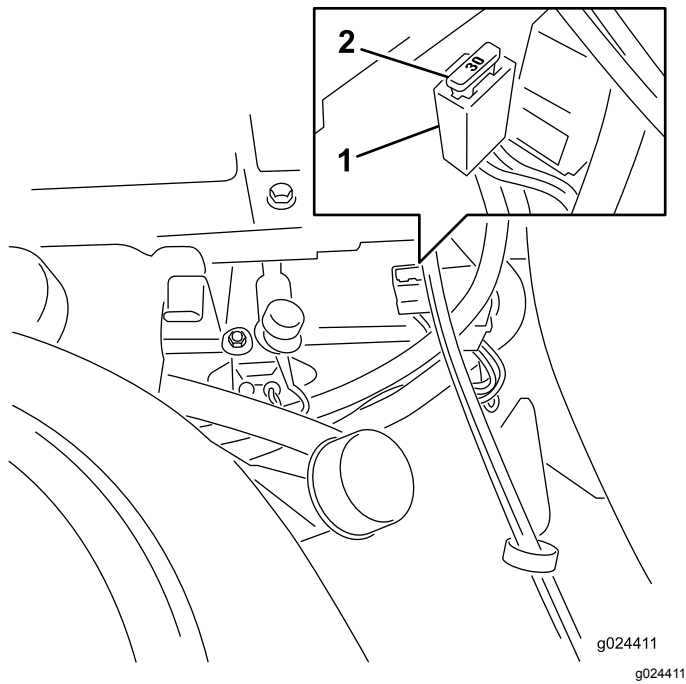

Figure 54
Note: The fuses are located on right hand console next to the seat (Figure 54).
1. To replace the main fuse, grasp the fuse and pull it straight and away from the fuse block (Figure 54).
4. Align a new fuse with the slot in the fuse block (Figure 54).
5. Push the fuse into the fuse block until the fuse is seated (Figure 54).